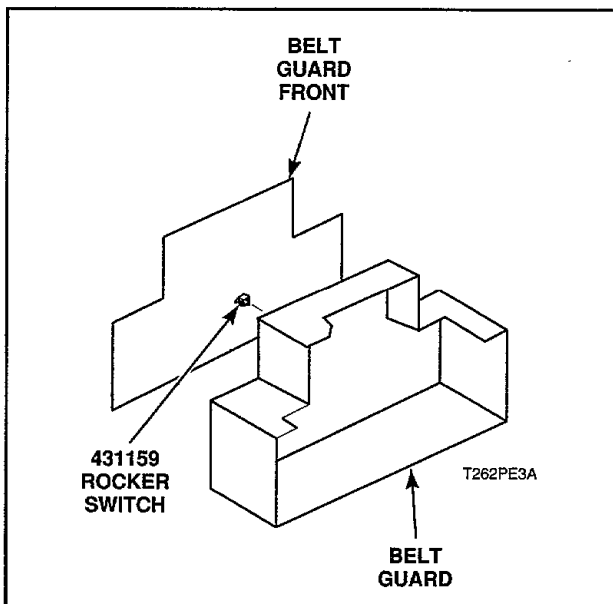

Figure 23
(Figure 23)
- Remove screws holding belt guard front to belt guard, Figure 23.